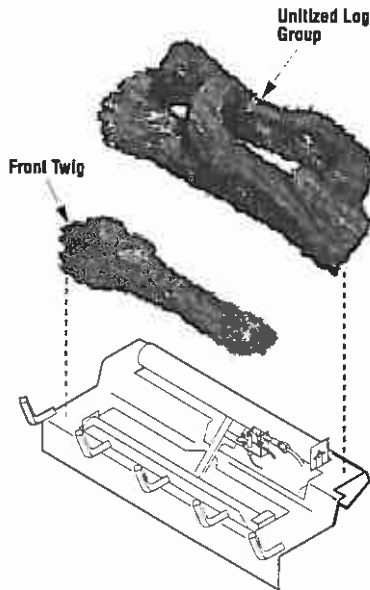

Figure 18
Step 13. The heater includes a three (3) piece set of six (6) ceramic fiber logs. Handle these logs with great care. The logs can be easily damaged, but when handled properly they can provide years of performance and enjoyment.
Position the unitized five (5) log set onto the burner as shown in *Figure 18*. Position the front two (2) piece log. The front log can be reversed to show either a split log face or natural bark.